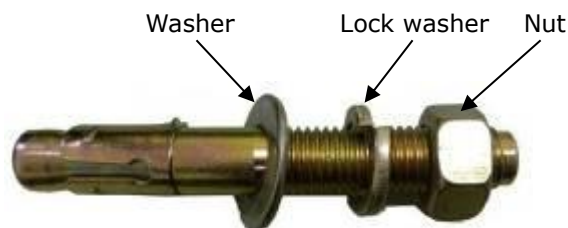

Fig. 18
1. Prepare anchor bolts (See Fig. 18).